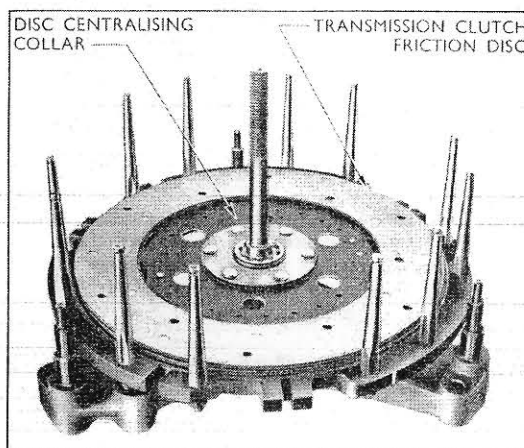

Fig. 4
1. Fit the transmission pressure plate in the assembly fixture so that it is resting on the three raised lugs cast in the base arms, and position the plate so that the slots for the actuating struts are situated centrally between the centre drive plate locating pegs on the assembly fixture. (See Fig. 4.)
2. Install the transmission clutch disc over the fixture centre pillar and disc centralising collar T.7502-2/aa with the long boss of the disc hub facing downwards. (See Fig. 4.)